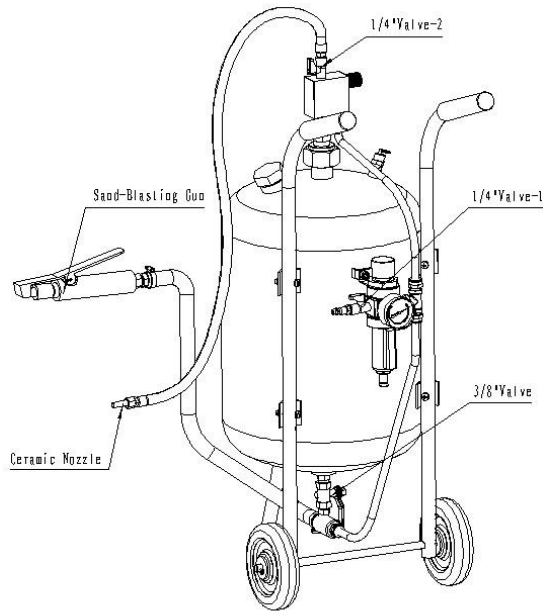

Figure 3
7. For safety, if the soda blaster will be not used at this time, shut off the air supply, turn the 1/4" Valve-1 (Figure 3) to its vertical position, and detach the air supply hose. Slowly reopen the 1/4" Valve-1 to release the trapped air pressure from storage tank. Close the 1/4" Valve-1 (Figure 3)、 the 1/4" Valve-2 (Figure 3) and the 3/8" Valve (Figure 3) to prevent moisture from being drawn into the tank.
13. Always keep the proper air pressure during operation. Please stop operation and stop the connection between the machine and air source, then release pressure from the tank if the safety valve (40) does not release while the pressure is 125psi.
3. The finished product is shown in Figure 3.
1. Attach the male coupler from the compressor to the Male Coupler (30), start compressor and open the 1/4" Valve-1 (Figure 3).
2. When the pressure is around 100 psi, Press and hold Sand-blasting Gun (11) until air is flowing through the gun.
3. With the Sand-blasting Gun open, slowly open the 3/8" Valve (Figure 3) until abrasive material begins to flow out of the Sand-blasting Gun.
4. Adjust the 3/8" Valve (Figure 3) until the desired amount of abrasive material is flowing through Sand-blasting Gun.
- 1 Pressing and holding the Sand-blasting Gun and turn off the 3/8" Valve (Figure 3)
1. Connect air compressor to the Male Coupler (30).
2. Start compressor and open 1/4" Valve-1 (Figure 3).
3. Turn on the 1/4" Valve-2 (Figure 3) to release the media when the pressure to exceed 100 psi.
4. Picked up the Soda Media Nozzle shown Figure 3, towards the sandblasting parts, you can adjust Media Flow Control Knob to increase or decrease the media flow rate. ( Clockwise increases, counterclockwise decreases )
Turn the 1/4" Valve-2 (Figure 3) to the closed position.
1. WARNING! Prior to performing any inspection, maintenance, or cleaning of the Pressurized Abrasive Blaster, turn off the air compressor. Turn the 1/4" Valve-1 (Figure 3) and the 1/4" Valve-2 (Figure 3) to the "OFF" position. Use the Safety Valve (40) to release any remaining air pressure in the Tank (7). Check to make sure the Pressure Gauge reads "0" PSI. Then, disconnect the compressor hose from the Male Coupler (30) of the unit.